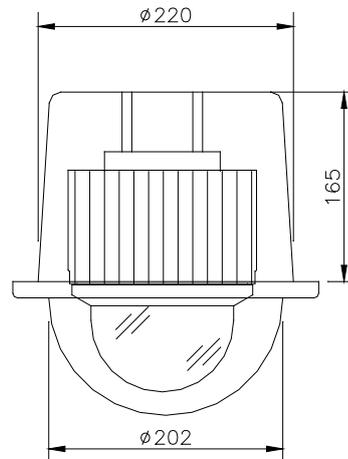

Fig 3
3. Embedded dome cover mount (Fig 3):